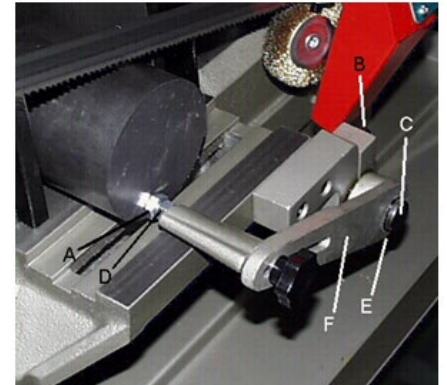

Fig. 17
The work stop is used mainly when more than one piece of work is to be cut to the same length. Simply position the stop (A) Fig. 17 the desired distance away from the blade. The stop may be repositioned by loosening lock screw (B) and moving the rod (C) in or out accordingly. Then tighten lock screw, fine adjustment to the stop can be made by loosening nut (D) and turning stop screw (A). To move the stop (A) out of the way, loosen set screw (E) and move arm (F) to the down position.